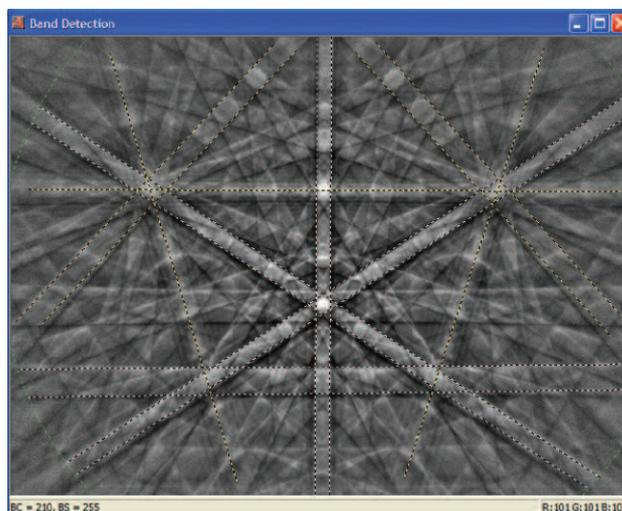

Figure 5. Band detection.
2. Detect bands. Use manual band detection for increased accuracy. Mark about 6 to 7 Kikuchi bands until you have something similar to the image on the right (Figure 5).